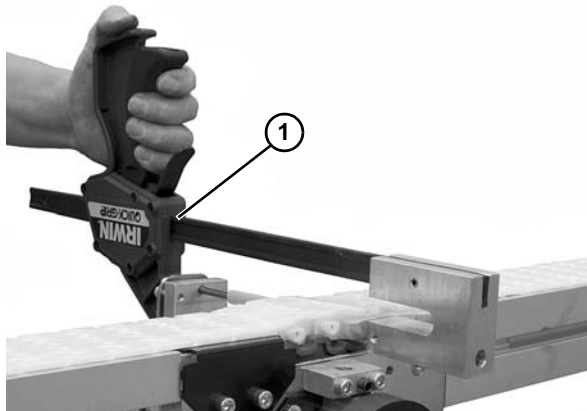

Figure 141
6. Use belt removal tool #203480 (Figure 141, item 1) or a punch and hammer to push the belt rod out by striking the rod end.